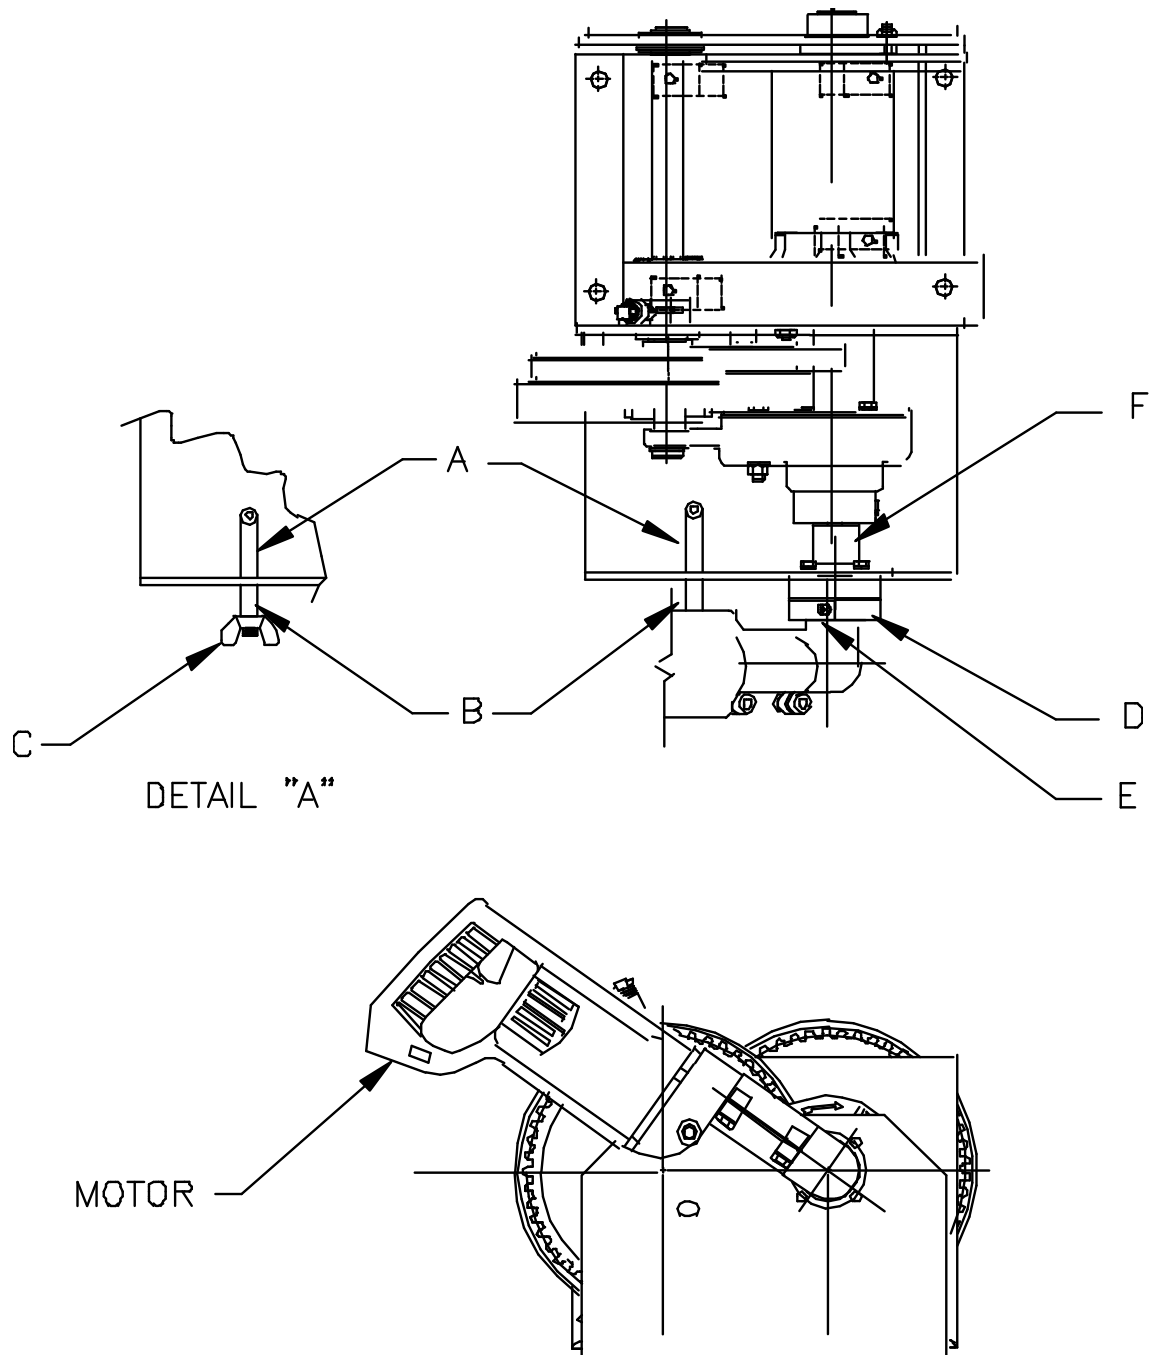

Figure 4-6. Portable Motor Installation and Removal
- (1) (See Figure 4-6 with detail "A".) Remove wing nut "C" and bolt wrench "A." Save spacer "B."
- (2) Use hex wrench end of "A" to loosen socket head cap screw "E."
- (3) Install end of motor into winch so that square shank engages torque limiter "F" and motor seats as far as possible into collar "D."
- (4) Use wrench "A" in screw "E" to make motor slip tight in collar "D."
- (5) Move motor so that hole in side is about aligned with anchorage as shown. Insert spacer between "B" between steel bracket and motor housing. Insert bolt end of "A" through bracket and spacer. Move motor as required to align with bolt end of "A" so "A" will start to thread into motor.
- (6) While maintaining motor position, remove "A" from assembly and use it to tighten screw "E."
- (7) Install "A" back into assembly and tighten into motor.
4.1.4.3 Portable Motor Removal (See Figure 4-6)